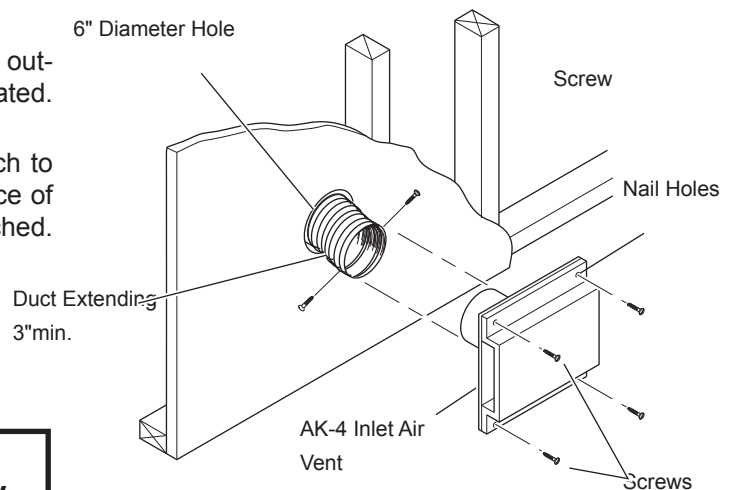

**Figure 26 -
3. Place the starting collar (4") into the hole on the side of fireplace. Fasten it in place with the four sheet metal screws provided. *Figures 26 and 28*